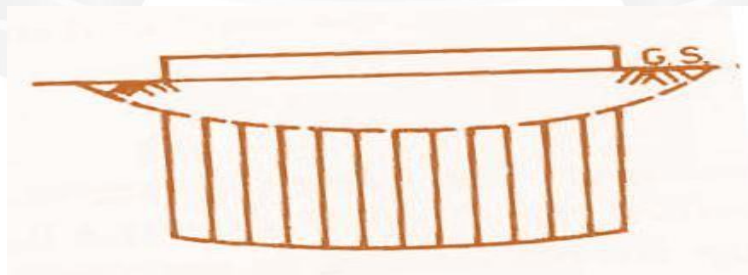

Fig 1: Contact Pressure Distribution - Flexible Footing - Cohesive Soil
[Fig1 <https://theconstructor.org/geotechnical/soil-foundation-contact-pressure-distribution/5647/>]
- Contact pressure distribution under uniform loading and deformed patterns of flexible and rigid foundations are already explained above with figures 1, 2, 3 and 4.